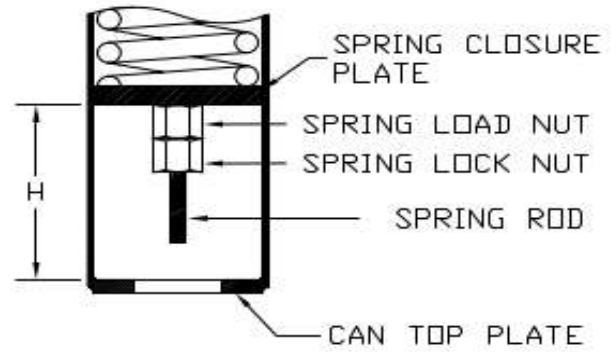

Figure 18B
1. Measure the distance between the inner face of the can's top plate and the outer face of the spring's closure plate; marked "H" in figure 18B (page 20).